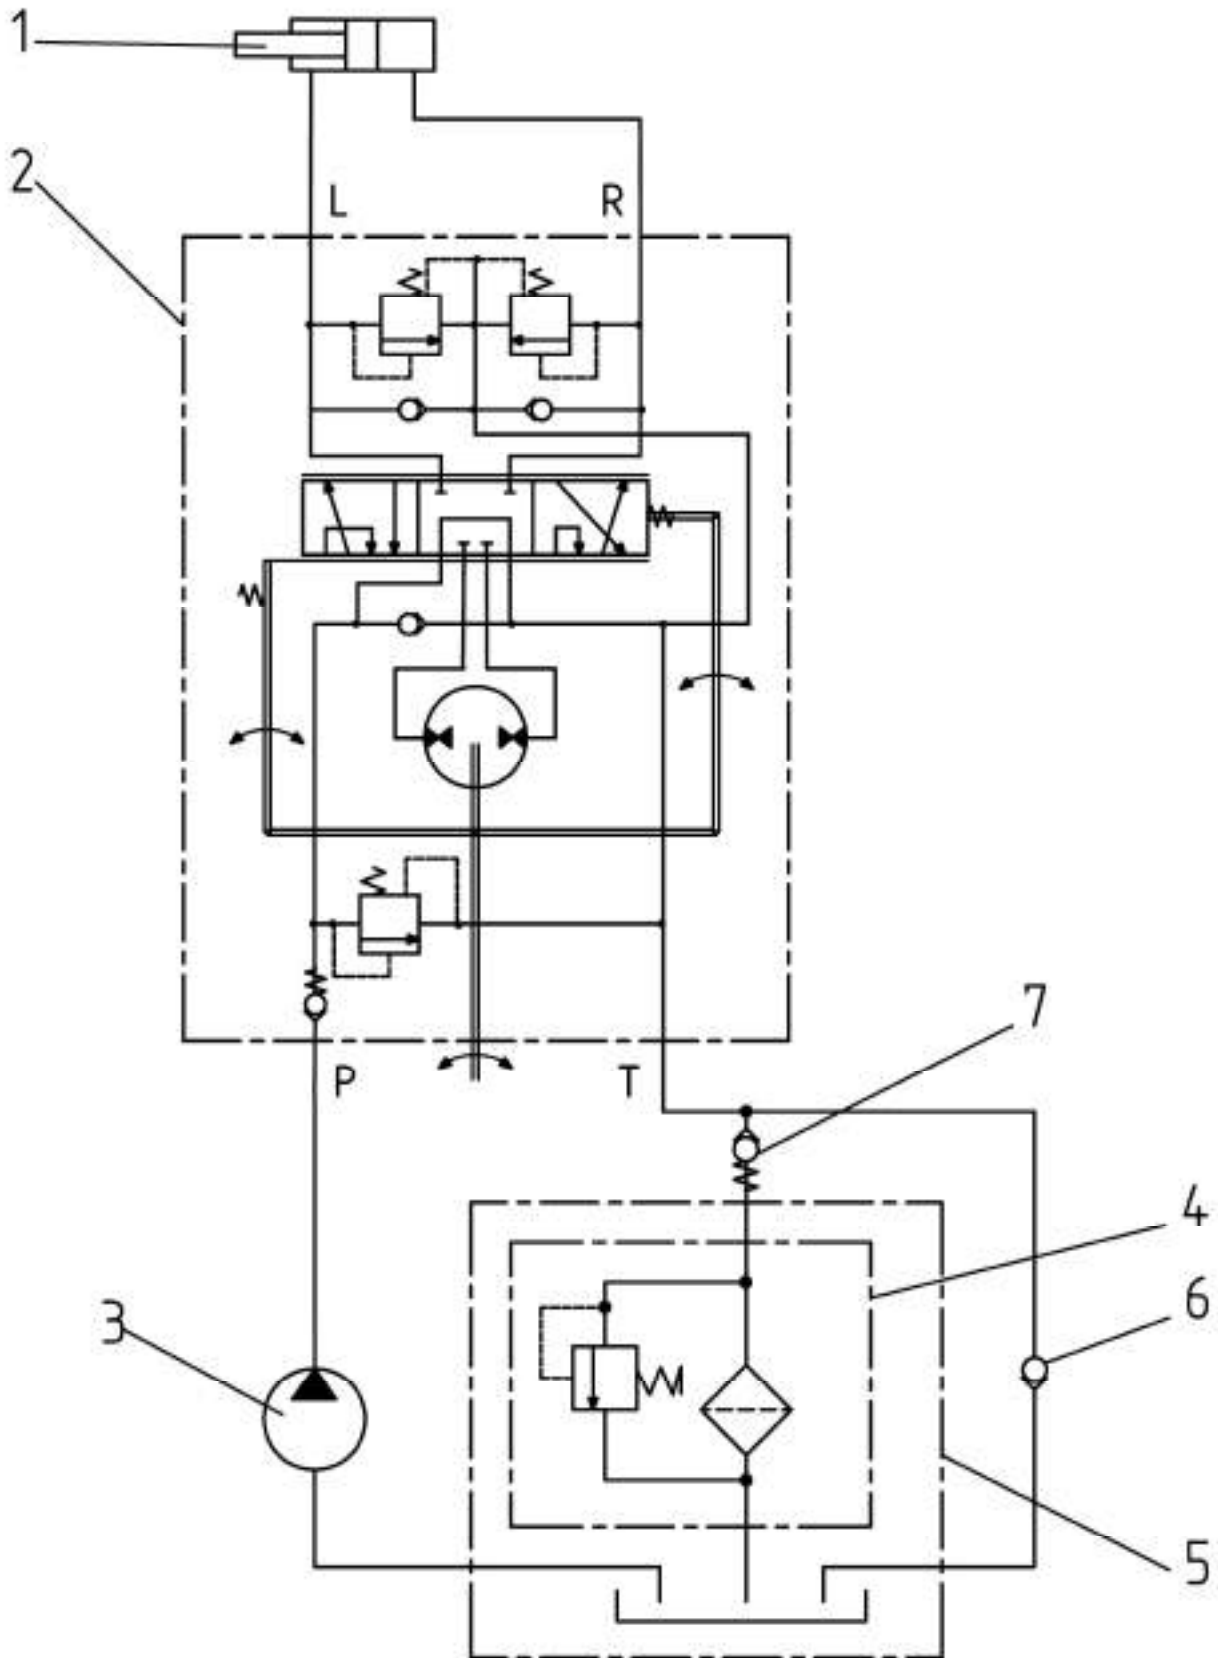

Figure E-40 Hydraulic circuit HSC
The hydrostatic steering control (HSC) is intended for controlling the turning of the steerable wheels and reducing the force to be applied to the steering wheel for turning the tractor. The steering wheel and the steerable wheels are connected hydraulic by oil pipelines and high-pressure hoses which connect the dosing pump mounted in the tractor's cabin on the steering column and differential hydraulic cylinder which is installed in the steering linkage of the front driving axle. The hydraulic circuit of HSC of the tractors BELARUS-1220.1/1220.3 is given on Fig. E-40.
During turning of the steering wheel the dosing pump (2) (Fig. E-40) gives the steering hydraulic cylinder (1) the oil volume which is proportional to the turning value of the steering wheel. When the steering wheel is not rotated the dosing pump locks in the oil volume in the hydraulic cylinder. It achieves stability of the direction of movement of the chassis through road or soil variations. At the normal working conditions when the feed pump (3) ensures necessary flow and oil pressure, maximal force on the steering does not exceed 30 N.
When the diesel engine is running oil from the feed pump (3) (Fig. E-40) (the steering wheel does not rotate) comes to the dosing pump (2) and is delivered to the oil tank (5) through the filter (4) in the oil tank. As you rotate the steering wheel, the spool of the dosing pump (the spool is connected to the steering wheel) displaces, ensuring oil supply into one of the cavities of the hydraulic cylinder of the turn 1 in the volume that corresponds to the turning angle of steering wheel.